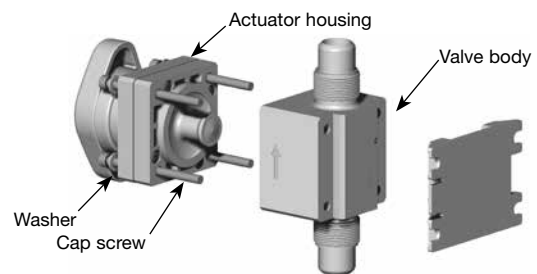

Fig. 6
4. Separate the actuator housing from the valve body as shown in Fig. 6 to expose the valve diaphragm.